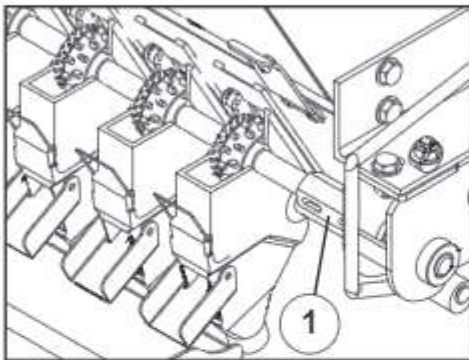

Fig 18
Due to the intensive action caused by the agitator the seeds can adhere to each other, or be damaged, causing irregular sowing/germination. **Therefore it is recommended that when sowing small seeds, especially oil seeds and thin shelled seeds, the drive to the agitator is disconnected.** To do this remove the linch pin or bolt. (1) (Fig 18).